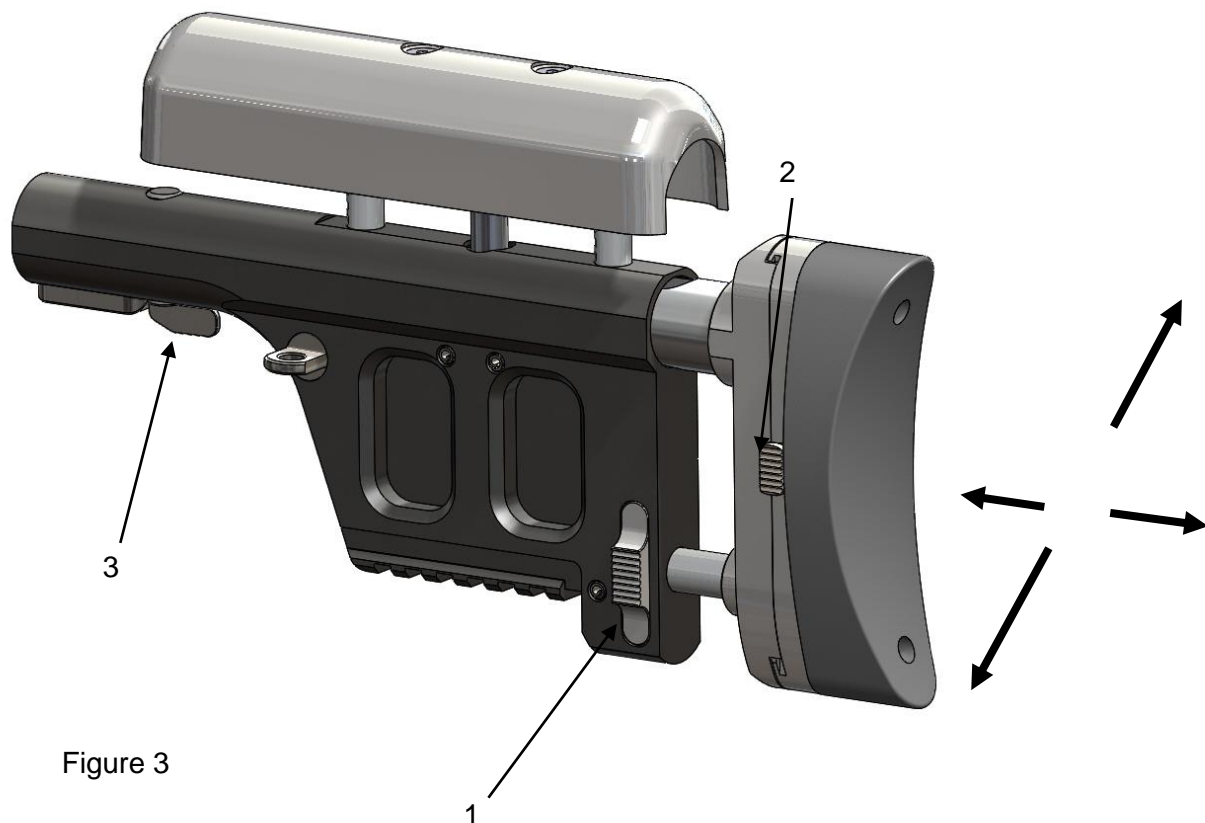

Figure 3
1.) Adjustment of the length of the buttstock (Fig. 3)
- Push latches (2) together